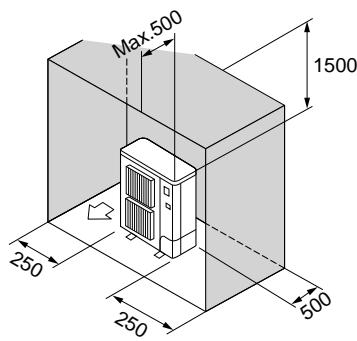

Fig. 2-8
⑥ Obstacles at rear, sides, and above only (Fig. 2-8)